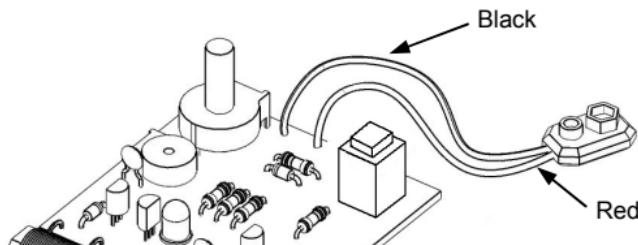

Fig. 2.0
- Connect the battery terminal to the point marked “+” (red) and “-” (black), see figure 2.0.